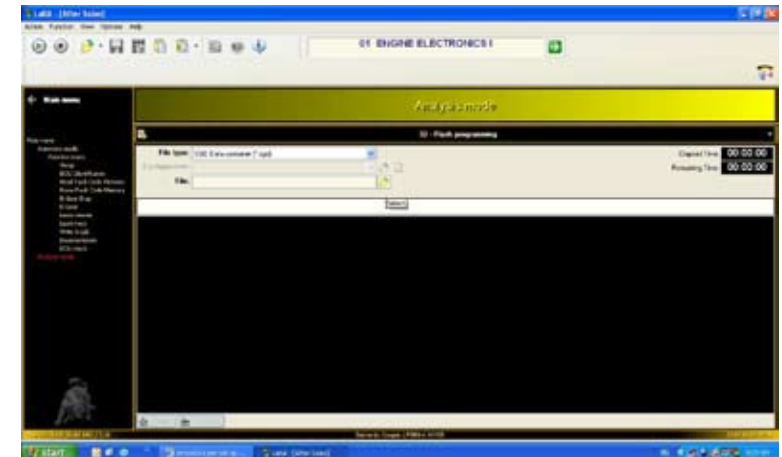

Fig.107
5. Select the type of file (**Fig.107**).